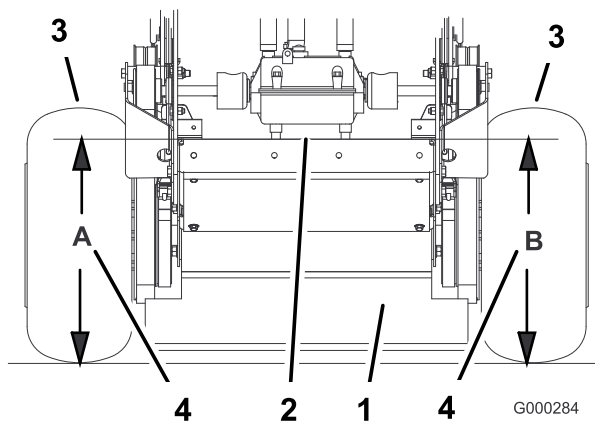

Figure 79
4. Measure engine deck height at location **A** (Figure 79).
5. Measure engine deck height at location **B** (Figure 79).